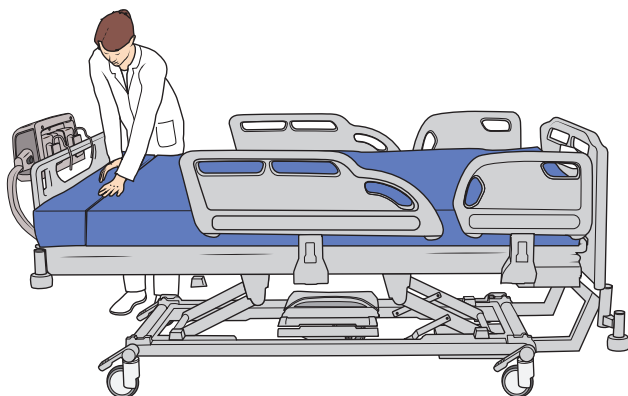

Figure 38
4. Place the mattress extension with the zip nearest the bottom into the space between the mattress and the footboard (see Figure 38). Make sure that there are no sharp edges which may rip the cover.